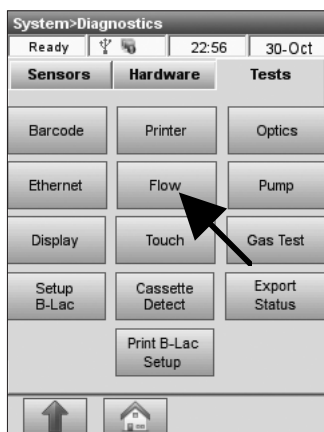

Fig. 8-22 Flow Test
- Press **<Flow>** to start the test (Fig. 8-22).